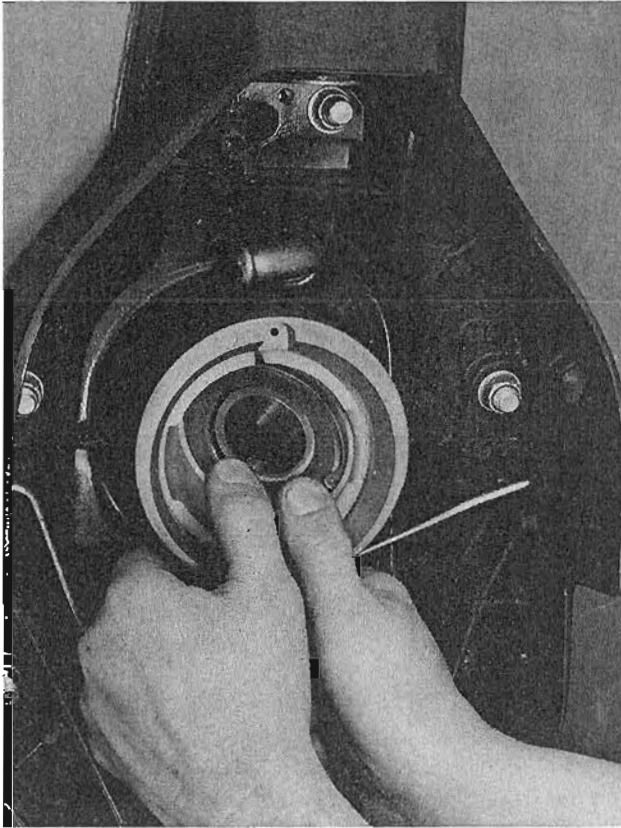

Figure 1. Install Ball Bearing and Nylon Retainer
1. Incorrect shimming between gimbal housing ball bearing and gimbal housing. To correct, add shims between nylon bearing carrier adaptor and gimbal so that ball bearing fits very tightly in nylon adaptor. Try various sized shims until ball bearing just can be tilted (force fit) into position. (Fig. 1)